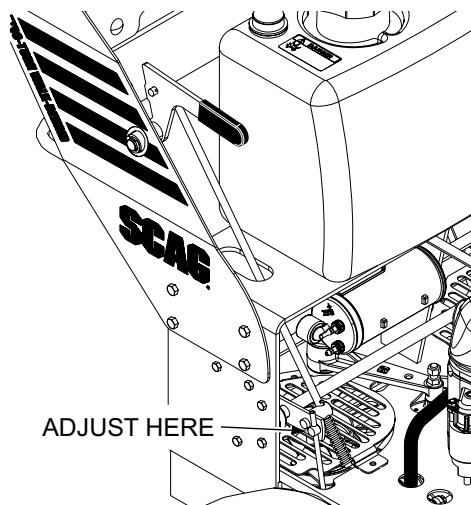

Figure 6-1. Neutral Adjustment
2. Disengage the parking brake. See Figure 6-1.
3. Remove the cotter pin securing the pivot to the brake control linkage. See Figure 6-1.